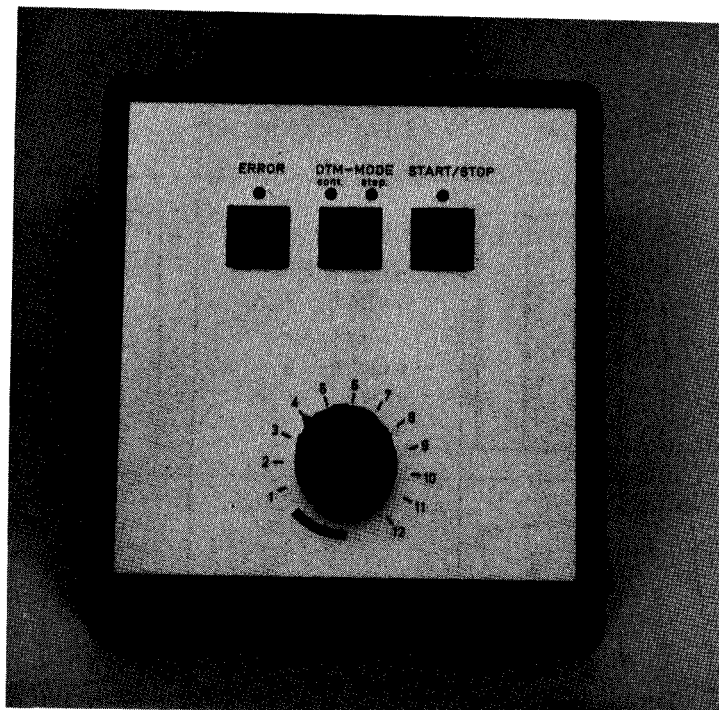

Fig. 2 DTM-3 control panel
- c) An operator control panel serving to control the different parameters during use of the system (Fig. 2).